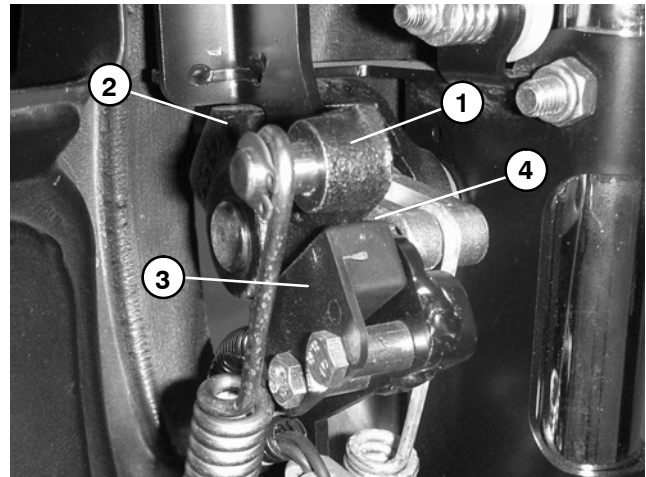

Figure 6
3. Hold traction lever against the neutral stop (Fig. 6).